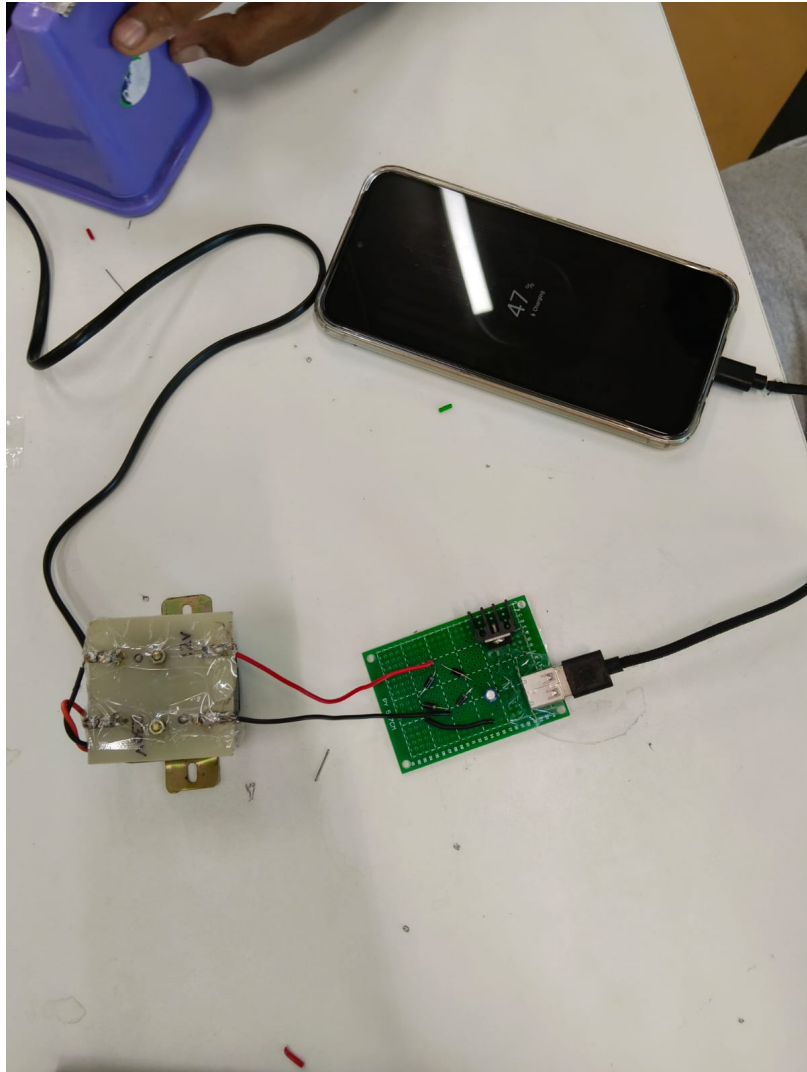

Figure 12: Verification the product
0.12 Verification (Figure 12)
We verified the product by taking cable consisting of Male USB pin and Male C pin. The Male USB pin is plugged in the Female port on the PCB. The C pin is plugged into our mobile. As shown in the Figure 12 the mobile was being charged.